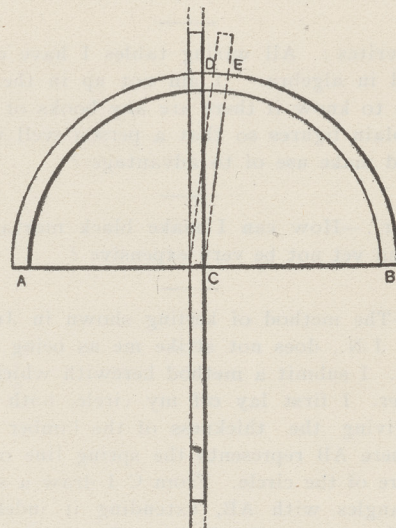
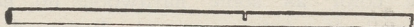

FIG. 3.
FIG. 4.
J.B.:—The method of kerfing shown in June issue in answer to J.N., does not strike me as being the best by any means. I submit a method herewith which I think is much better. I first lay off my circle, both inside and outside, giving the thickness of the lumber bent, as at Fig. 3, where AB represents the spring line of the arch, C the centre of the circle. From C I draw a straight line at right angles with AB, extending it indefinitely and bisecting the circle at D. I then take a strip of the same thickness as that I desire to kerf and saw in a kerf as indicated in Fig. 4, using the same saw that I expect to use in kerfing. I then lay the strip on as shown by the dotted lines of Fig. 3, and bend the strip until the kerf closes. I then mark the circle at E, which gives the desired distance. After this I set my compasses from E to D of Fig. 3, and step off the same number of spaces to be bent and proceed to kerf. If in stepping off the kerfs the latter do not come out all right at the spring line, I usually close the compasses up and make an extra cut, rather than leave one out. Of course the stuff must be gauged to show how deep the saw must go.